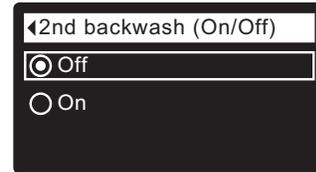

FIG. 76
8b. Second backwash (On/Off): If the desired option already has a dot next to it (See Figure 76), go to Step 9. Otherwise, press the DOWN (▼) or UP (▲) buttons to scroll to the other option, then press SELECT (O) to choose it. Setting this feature On adds a second backwash and rinse at the beginning of the recharge cycle. Default is Off. Set this feature On if your water supply contains a lot of sediment or iron.